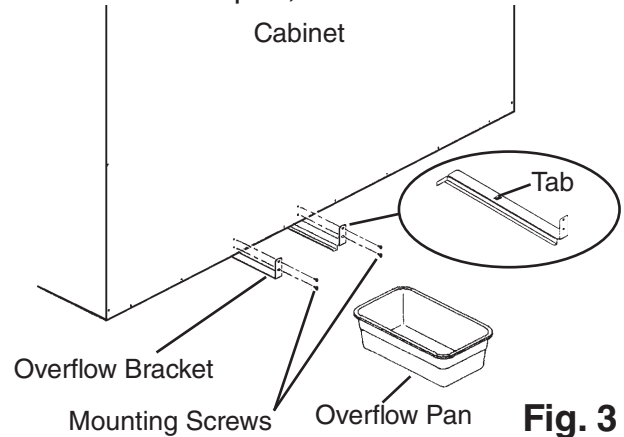

Fig. 3
- 1) Attach the overflow pan's brackets by engaging the tab on the bracket through the hole in the bottom of the unit and securing with the four mounting screws provided. See Fig. 3.